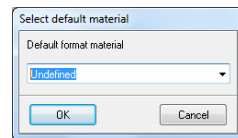

Fig. 36 – selection of default material
4) **'Default format material'** – opens **'Select default...'** window (Fig. 36), where you can define the material the formats are made from.